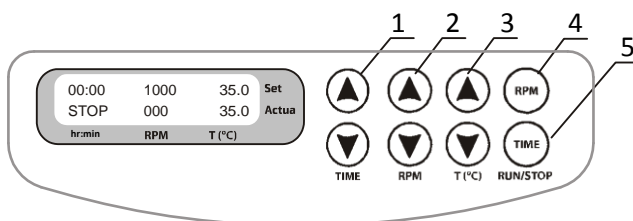
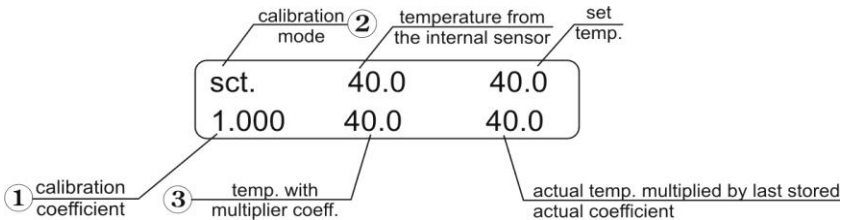

Fig.3 Control Panel
Fig.5 Control panel in calibration mode
- 4.3 With the help of “▲” and “▼” keys Fig. 3/1 set the required working time interval in hours and minutes (increment - 1 min). If the key is pressed for more than 3 seconds, the increment becomes bigger.
- 4.4 With the help of “▲” and “▼” keys Fig. 3/2 set the required speed (increment 10 RPM). If the key is pressed for more than 3 seconds, the increment becomes bigger.
- 4.5 With the help of “▲” and “▼” keys Fig. 3/3 set the necessary temperature (increment 0.1°C). If the button is pressed for more than 3 seconds, the increment becomes bigger.
- 4.7 Press the RPM-RUN/STOP key Fig. 3/4 the block will start rotation and the timer indicator will start counting up the time interval (with 1 min precision).
- 4.10 If required, it is possible to restart the timer when it is running. Press the **TIME-RUN/STOP** key once Fig. 3/5 to stop the timer. Press the **TIME-RUN/STOP** key again to restart the timer.
- 5.2. To enter the calibration coefficient, hold the **TIME-RUN/STOP** key (Fig. 3/5) for more than 8 sec to activate calibration mode. The calibration coefficient will be shown on the display (Fig. 5/1).
- 5.3. Set 1.000 value using the **▲** and **▼** keys (Fig. 3/3) as shown on Fig. 5/1 to restore the factory settings.
- 5.9. Hold down the **TIME-RUN/STOP** key (Fig. 3/5) for more than 8 sec. to activate calibration mode. The following parameters will be shown on the display (Fig. 5)
Using the **Temp. ▲** and **▼** keys (Fig.3/3), change the calibration coefficient (Fig.6A/1) so, that the new temperature value (Fig.6A/2) corresponds to the independent temperature sensor. In our example the calibration coefficient will be 0.974 (in range: 0.936 up to 1.063; increment 0.001).
- 5.11. After finishing the calibration press the **RPM-RUN/STOP** key (Fig.3/4) once to save the changes and exit the calibration mode.